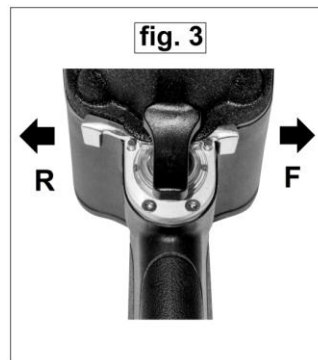

fig.3
- ❑ **WARNING!** Ensure you read, understand and apply safety instructions before use. Only use impact sockets which are specifically designed for use with an impact wrench. Connect the wrench to the air hose as in page 3. Place the socket over the fastener nut and depress the trigger to operate the wrench. To change the direction, push the switch on near the trigger to the desired direction. (fig.3) The air flow may be regulated by adjusting the air regulator dial on the bottom rear of the handle.